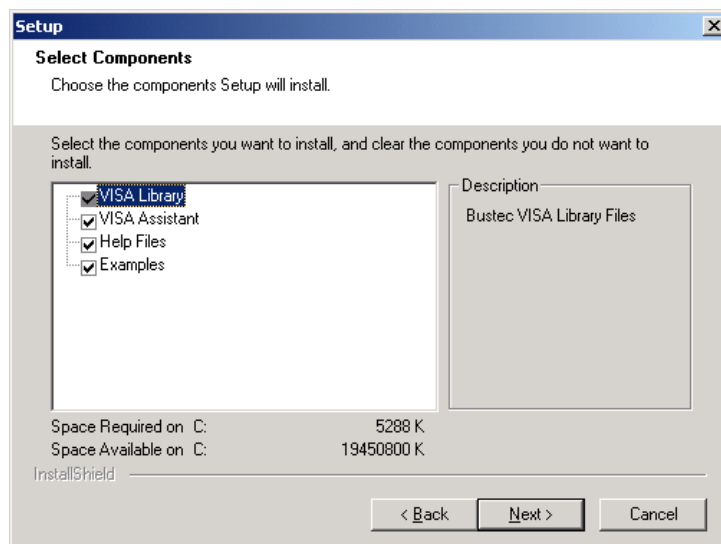

Figure 34 - Selecting Components for Installation.
7. If you have chosen “Custom”, selecting “Next” will allow you to select the components to install (see Figure 34):